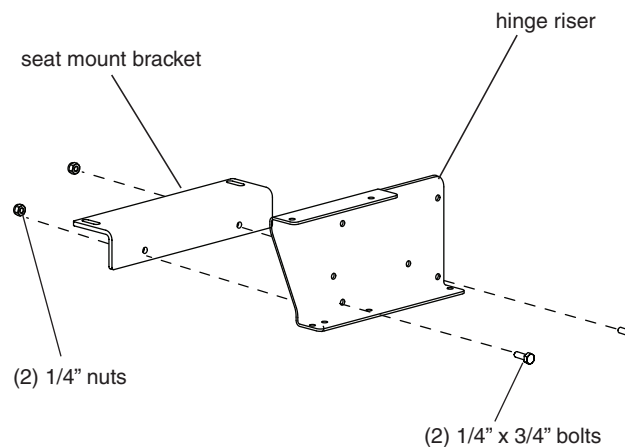
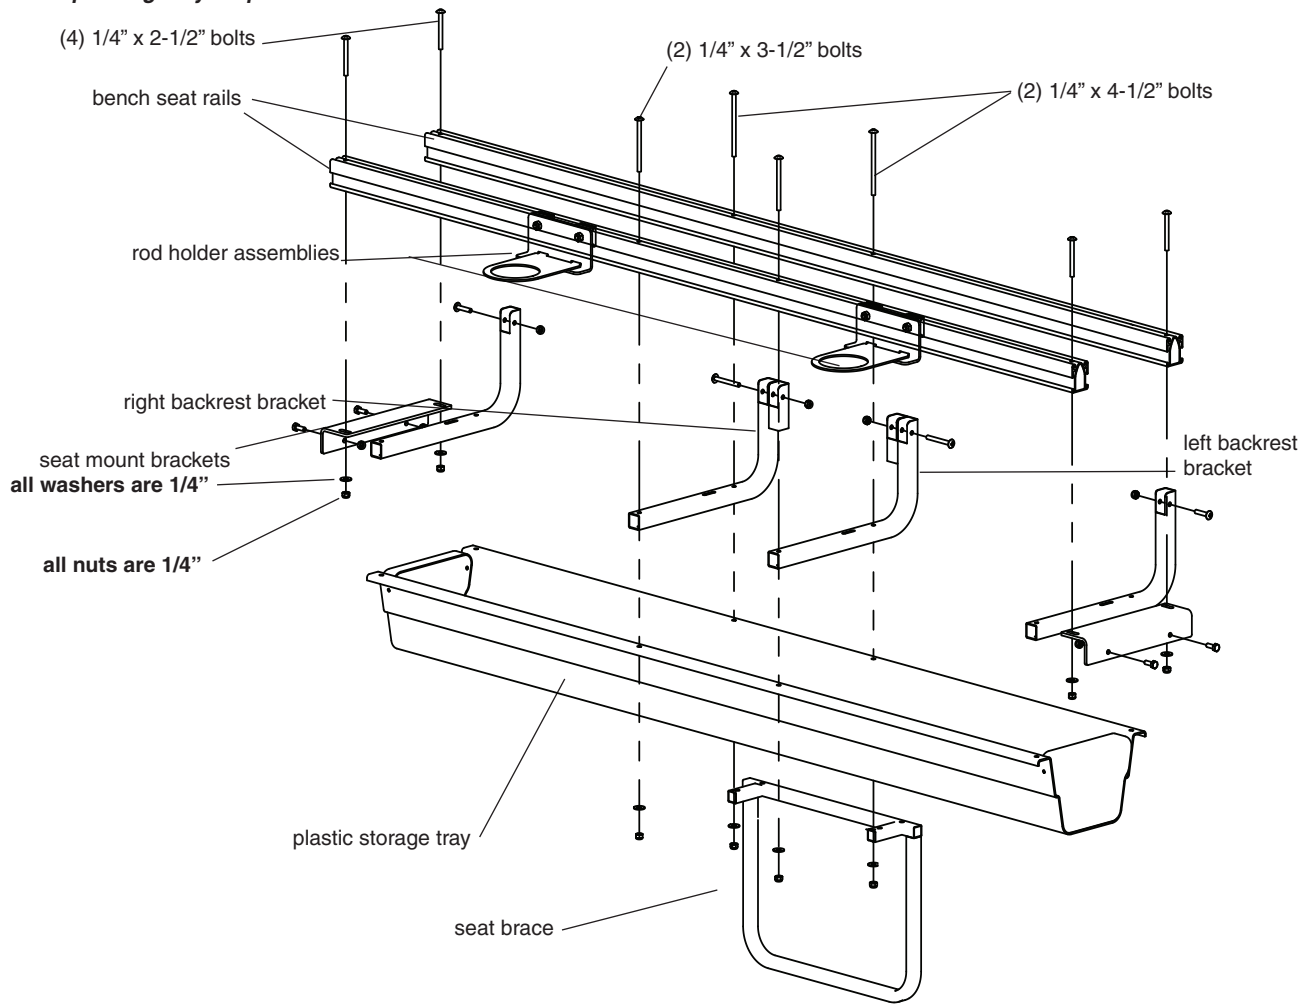

FIGURE 2 (left side shown)
FIGURE 3A
5. Attach (2) seat kit mount brackets (68304) to each hinge riser using (4) provided 1/4-20 x 3/4" hex head bolts and nyloc nuts. **SEE FIGURE 2.**
6. Slide the (2) pre-assembled rod holder assemblies (68449) into the T-slot of either bench seat rail. Doing so makes this bench seat rail the front rail and will be positioned beneath your legs during use.
7. Attach (2) bench seat rails (68351) to the top side of seat kit mount brackets using (4) provided 1/4-20 x 2-1/2" bolts, nyloc nuts and (4) washers. **SEE FIGURE 3A.** Make sure the rail with the rod holder assemblies is in front, so it will be positioned beneath your legs during use.
9. Attach the seat brace (68026), the left backrest bracket (68310), the right backrest bracket (68323) and the plastic storage tray to the center set of holes on bench seat rails using (2) provided 1/4-20 x 3-1/2" Phillips truss head bolts, (2) 1/4-20 x 4-1/2" Phillips truss head bolts, (4) nyloc nuts and (4) washers. **SEE FIGURE 3A.** The long bolts should be used in the rear holes since the added length is needed to go through the seat brace.